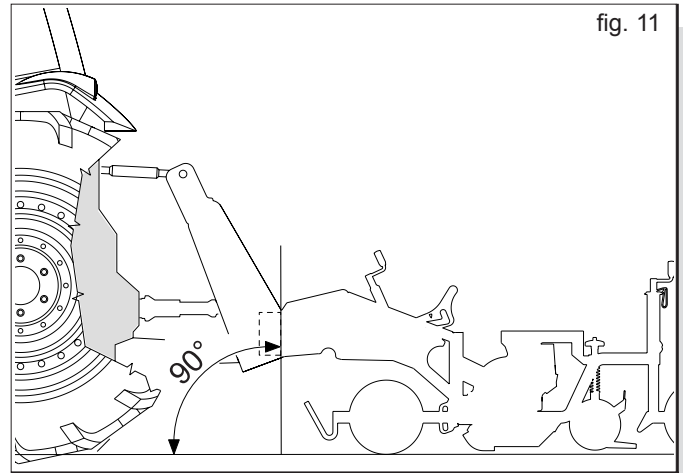

fig. 11
- 10) to keep the seeder perpendicular to the ground (Fig. 11)